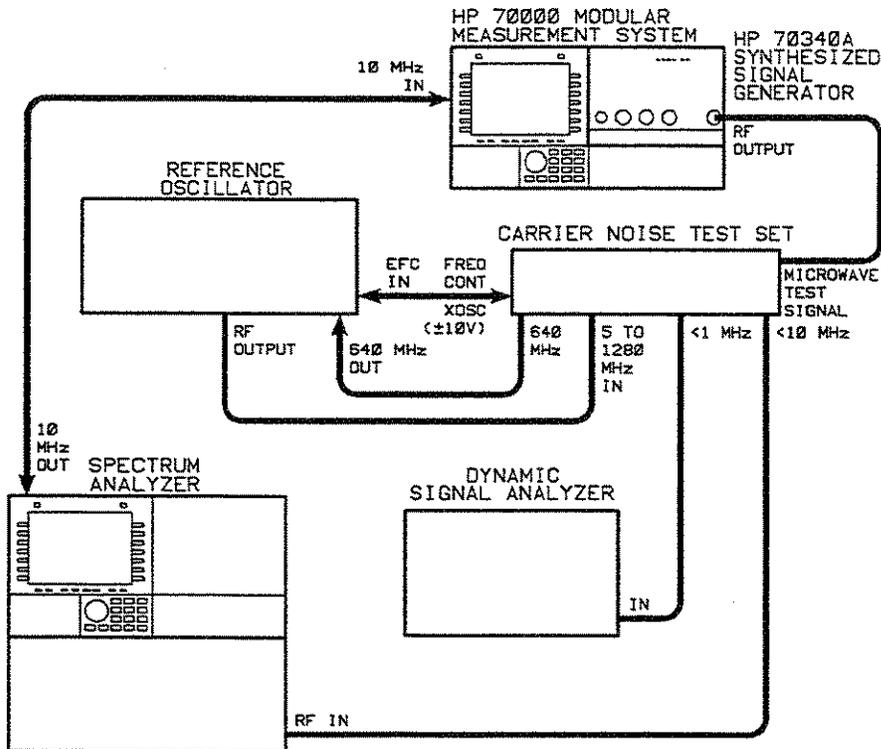

Figure 1-9. Single-Sideband Phase Noise Test Setup
1. Setup the equipment as shown in Figure 1-9.